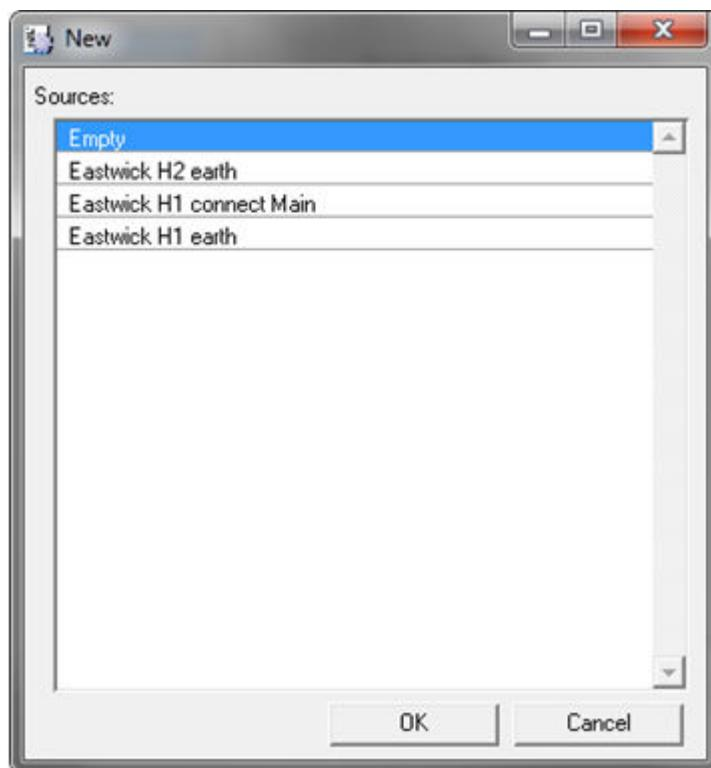
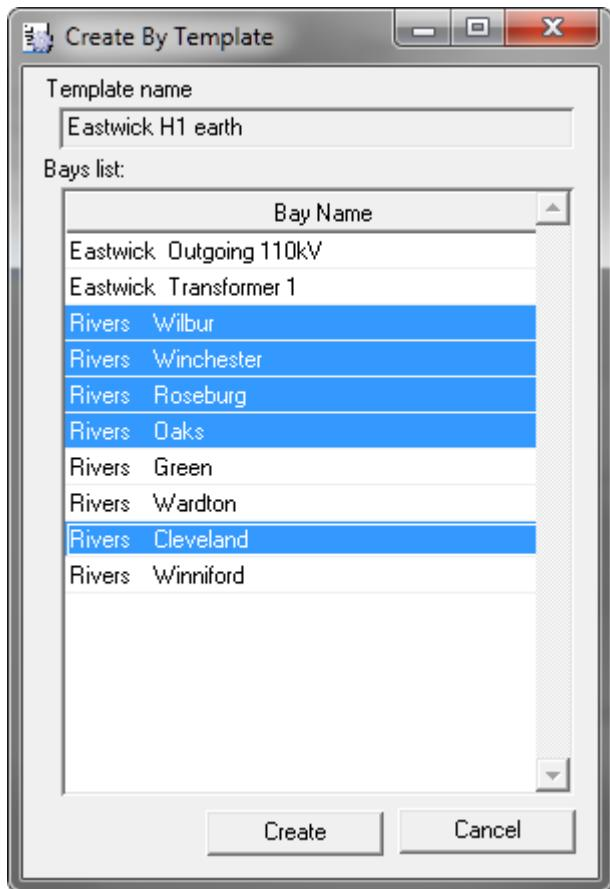

Figure 93: New sequence dialog
Figure 94: New sequence based on template
1. Create new empty sequence (see Figure 93 first item)
2. Create new sequence based on existing. Only sequences with Process Object references to one bay only can be used as source. In this case a list of bays containing the same amount and type of switching devices will be provided. Multiple bays can be selected to create sequences for the selected bays (see Figure 93 and Figure 94).